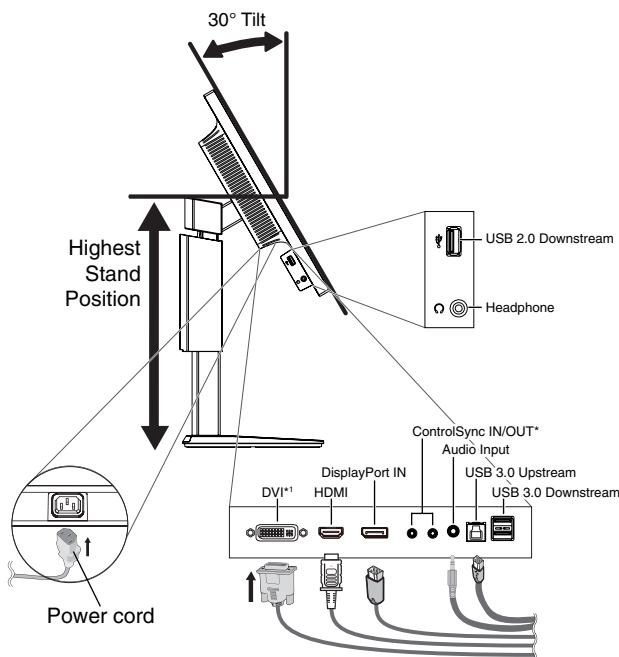
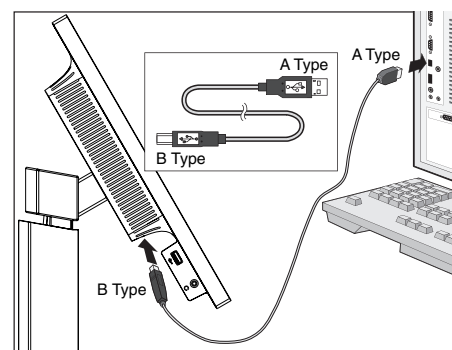

Figure C.1
Figure C.1a
4. Connect all cables to the appropriate connectors (Figure C.1). When using the USB cable, connect the B type connector to the USB upstream port on the right back side of the monitor and the A type connector to the downstream port on the computer (Figure C.1a). If using the cable from a USB device, plug into one of the downstream ports of the monitor.